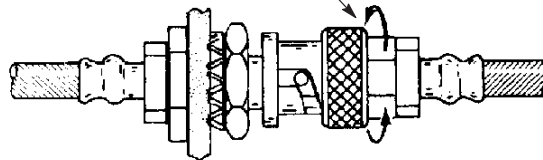

Figure 11
1. Align the slots in the plug collar with the lugs on the jack. See Figure 11.